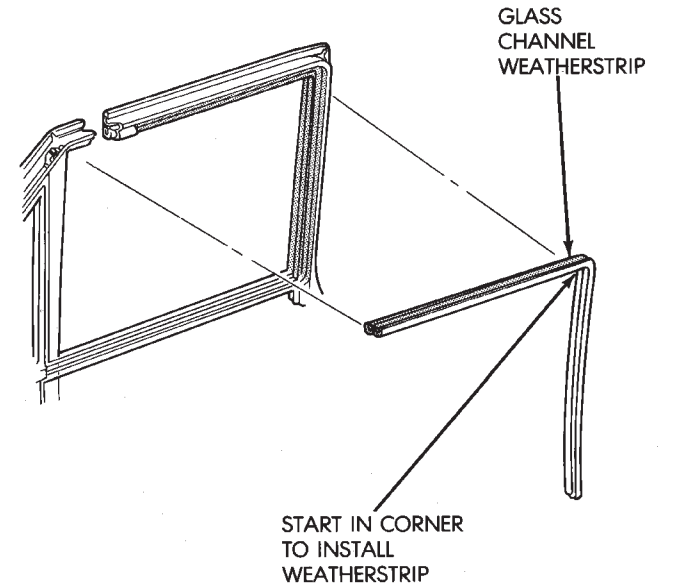

Fig. 102 Front Door Window Glass Channel Weatherstrip Seal
(1) To install a front door window glass channel weatherstrip seal, start at the upper, rear corner (Fig. 102).